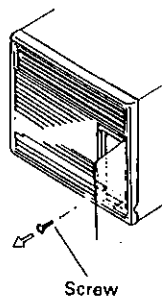

Fig. 4
- (1) Remove the filter from the front panel by pulling rightward and remove the screw which secure the front panel (Fig. 4).